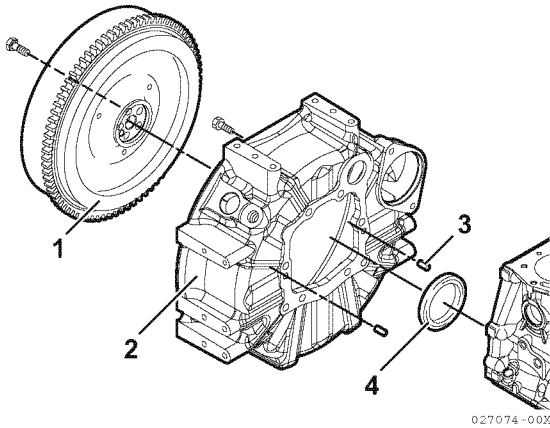

Figure 6-51
1. Remove the flywheel (**Figure 6-51, (1)**) from the crankshaft.
2. Remove the bolts from the flywheel housing assembly (**Figure 6-51, (2)**). Remove the flywheel housing from the engine.